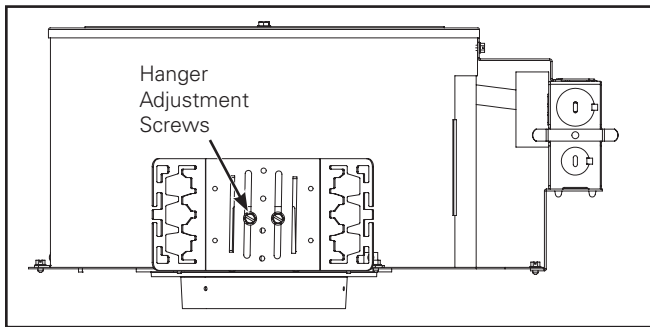

Figure 2.
2. Adjust hanger adjustment screws so bottom of plaster ring is flush with finished ceiling line. Hanger bracket is reversible for total adjustment of 5" (Figure 2).